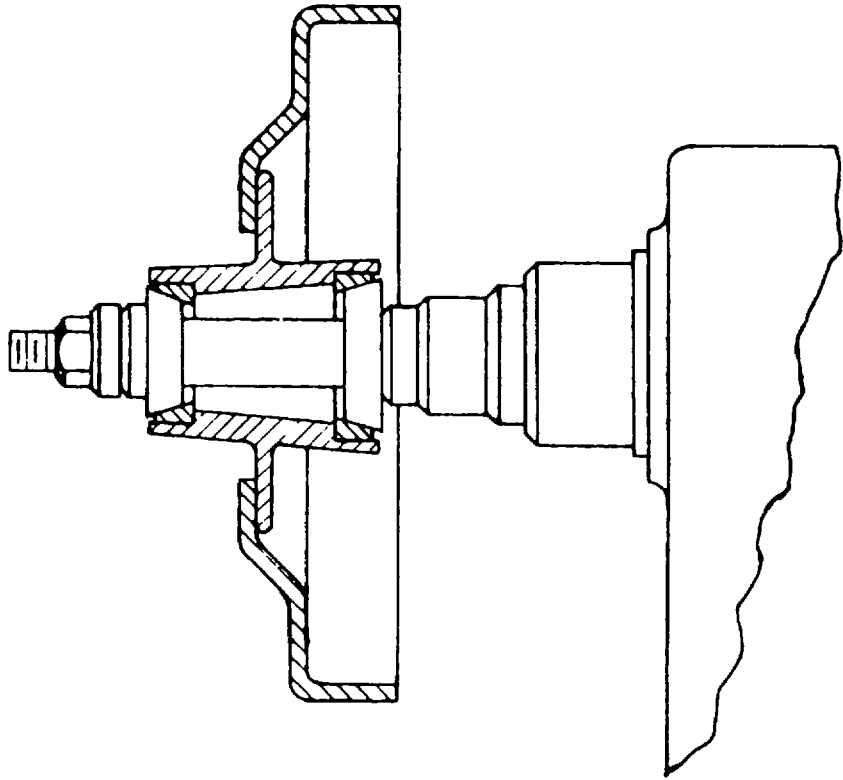

Fig. 1-6 - TAPERED BEARING HUB (TRUCK)
- e. -Tapered Bearing Hub (Truck). Select the proper Tapered Cones to fit into the inner and outer bearing cups. The Tapered Cone should fit so that it is almost completely inside the bearing cup. There are conditions when the Tapered Cone will barely enter the cup or just about go through the cup. Place the Tapered Cone for the inner bearing cup on the Arbor, followed by the drum and Tapered Cone for outer bearing cup. Place additional Spacers on the Arbor so that when the Arbor Nut on the end of the Arbor is tightened, the two Tapered Cones are drawn securely against the bearing cups. Make sure that the Tapered Cones and Bearing Cups are clean. (See Figure 1-6)